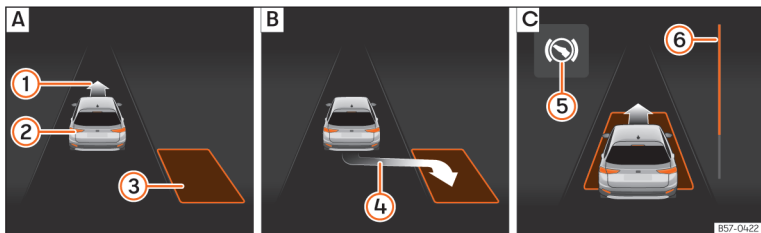
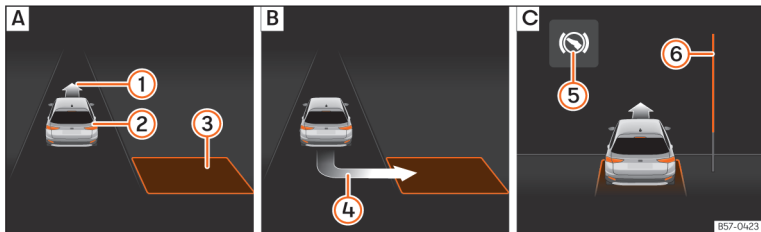

Fig. 141 On the instrument cluster display: parallel parking. **A**: Finding a parking space **B**: Parking position. **C**: Manoeuvring.
Fig. 142 On the instrument cluster display: angle parking. **A**: Finding a parking space **B**: Parking position. **C**: Manoeuvring.
- Look at the instrument cluster screen to see if the space has been detected as “appropriate” and if the correct position for parking has been reached »» Fig. 141 **B** or »» Fig. 142 **B**. The space is considered “appropriate” if the instrument cluster display shows the parking indication ④.
- Reverse until the continuous ParkPilot signal sounds; **OR:** reverse until the indication to move forward appears on the instrument panel display »» Fig. 141 [C] or »» Fig. 142 [C]; **OR:** reverse until the **Park Assist finished** message appears on the instrument cluster display. The progress bar (6) indicates the distance to cover.
- Press the brake pedal until the parking assist system completes the steering wheel turns; **OR:** until the symbol (S) goes out on the instrument panel screen.
- Move forward until the continuous ParkPilot signal sounds; **OR:** move forward until the reverse indication appears on the instrument panel display. The Park Assist system steers the vehicle forward and back until it centres it in the space »» Fig. 141 [C] or »» Fig. 142 [C].
The progress bar »» Fig. 141 (6) and »» Fig. 142 (6) on the instrument cluster display shows the relative distance to be covered as a symbol. The greater the distance, the fuller the progress